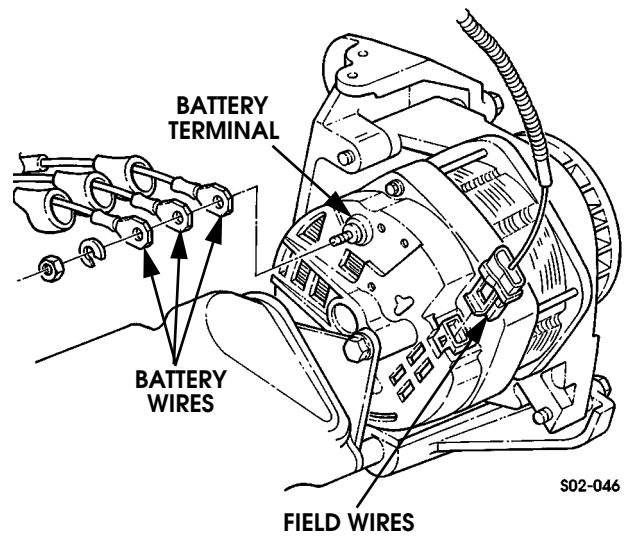

Figure 12-35: Alternator Connections
4. Pull alternator away from engine. Remove nut and lockwasher and disconnect battery wires from battery alternator terminal (Figure 12-35).
5. Unlock and disconnect field wire (Figure 12-35).